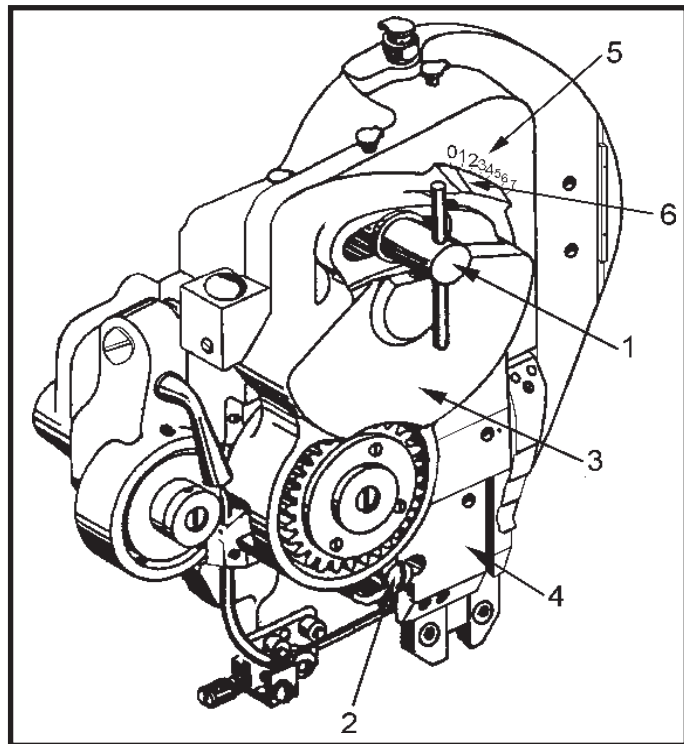

Figure 7-Wire Draw Adjustments and Wire Draw Scale
6. If it is found necessary to relocate the wire feed guard lock screw (1) and the cutter block holding screw (2) remove both screws and then shift the wire feed guard casting sufficiently to the left or right, as required, so that the wire feed guard lock screw (1) can be inserted into the alternate hole, A or B. Do Not tighten the screw at this point.
7. The standard wire draw head is so designed that the cutter block (4), Figure 7, automatically shifts to the left or right when the wire feed guard is shifted. If the head being operated is this type relocate the cutter block holding screw (2) in the alternate hole, D or E, Figure 6, and tighten the screw at this point. If the head being operated is the long wire draw type the cutter block must be shifted manually. Move the cutter block as required and relocate the holding screw (2) with its washer. Do Not tighten the screw at this point.
8. If it is not necessary to relocate the wire feed guard lock screw (1) and the cutter block holding screw (2), and the head being operated is the standard wire draw type loosen (do not remove) only the wire feed guard lock screw (1). If the head is the long wire draw type loosen (do not remove) both screws.
9. To increase or decrease the wire draw on the standard wire draw head shift the wire feed guard casting (3), Figure 7, to the right or left. As mentioned in the step above any shifting of the wire feed guard casting automatically adjusts the position of the cutter block so that both legs of the staple are increased or decreased an equal amount.
10. The standard wire draw heads are equipped with a 'length of wire draw' scale (5), Figure 7, on the head plate and an alignment marker (6), Figure 7, on the wire feed guard casting. The scale and marker provide a means of setting the wire draw according to the desired length. The 'length of wire draw' scale is used for a reference point only. The larger numbers correspond a to longer leg length.
11. After the setting has been made tighten the wire feed guard lock screw (1), Figure 7.
12. A 'length of wire draw' scale, similar to that on the standard wire draw heads, is provided on the long wire draw head plates. The 'length of wire draw' scale is used for a reference point only. The larger numbers corresponding to longer right leg lengths. After setting the wire feed guard casting and the cutter block tighten the wire feed guard lock screw (1) and the cutter block holding screw (2), Figure 7.